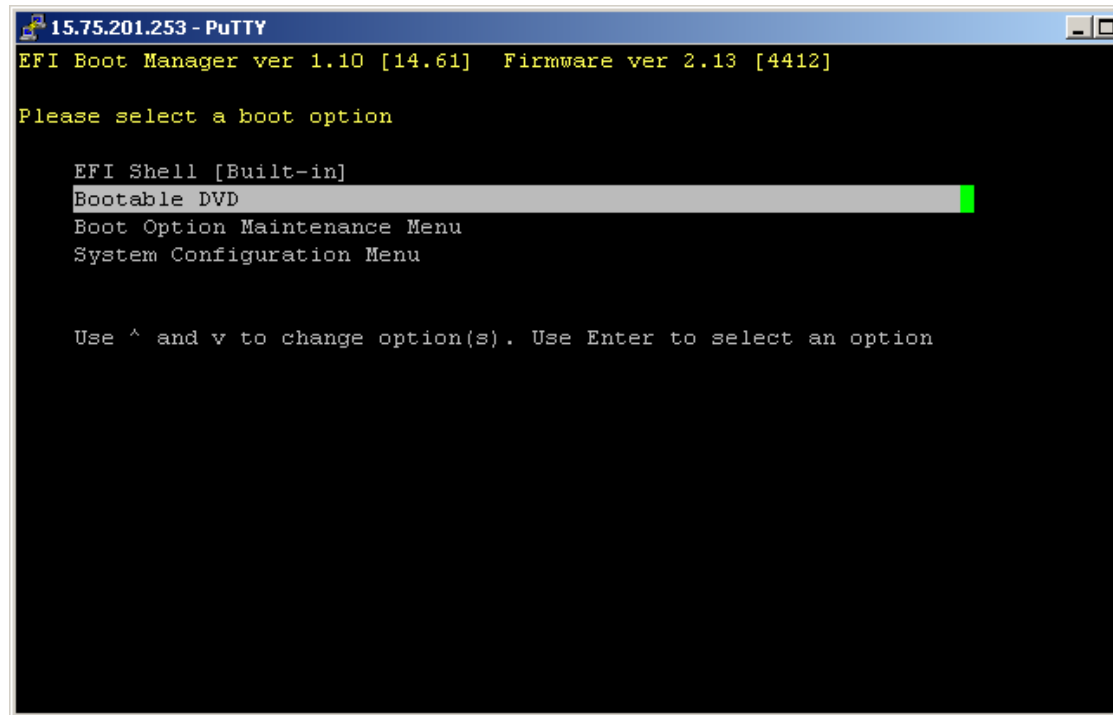

Figure 13: EFI Boot Manager
2. Choose **Bootable DVD** to open the EFI-Based Setup Utility (EBSU) as shown in Figure 13.
1. Choose **EFI Shell** at the EFI Boot Manager (EBSU) menu (as shown in Figure 13).